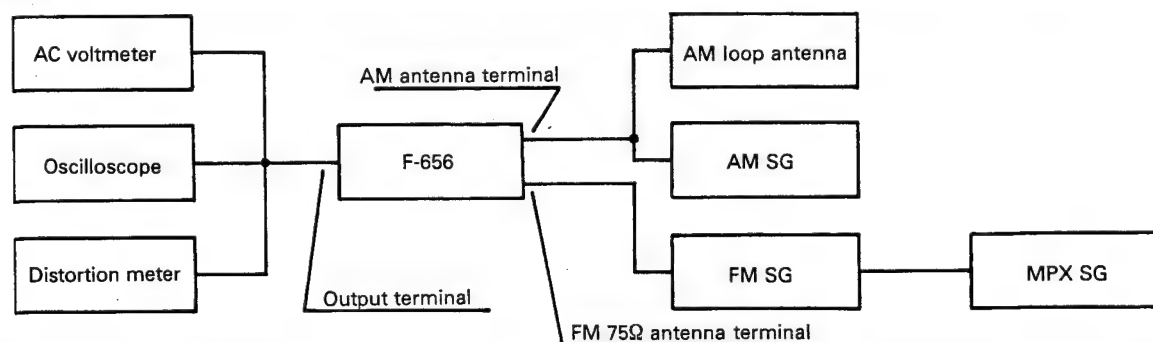
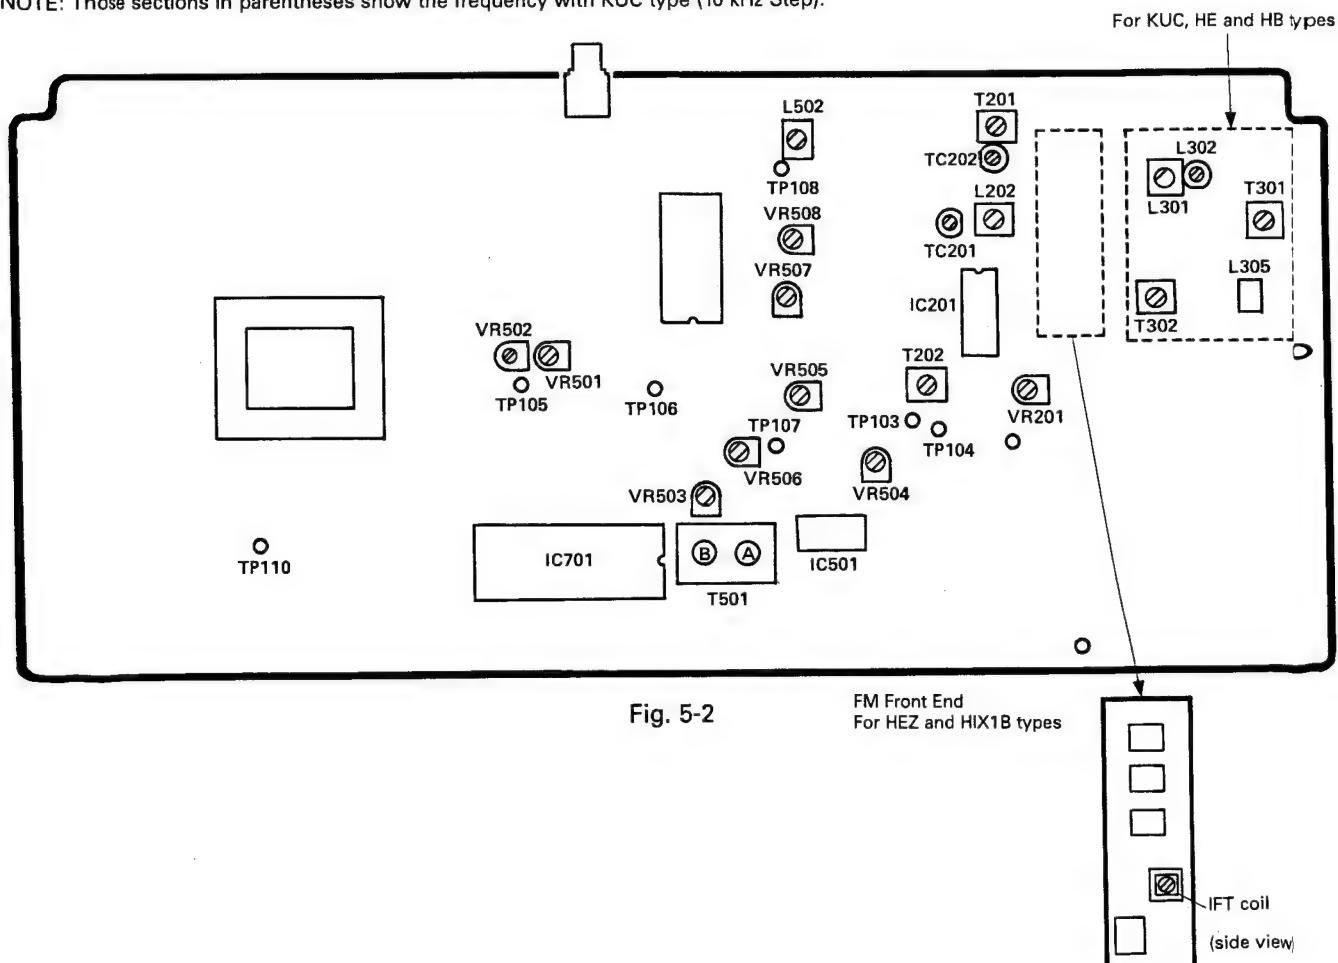

Fig. 5-1
Fig. 5-2
- For connections and points to be adjusted, refer to Fig. 5-1 and Fig. 5-2.
(\*4) T302 is only on types HE, HB and KUC. If stereo distortion does not improve on HEZ and HIX1B, adjust the IFT coil (Fig. 5-2) in the front end to within  $\pm$  90°.
- Pour les connexions et les points à régler, se reporter à la Fig. 5-1 et Fig. 5-2.